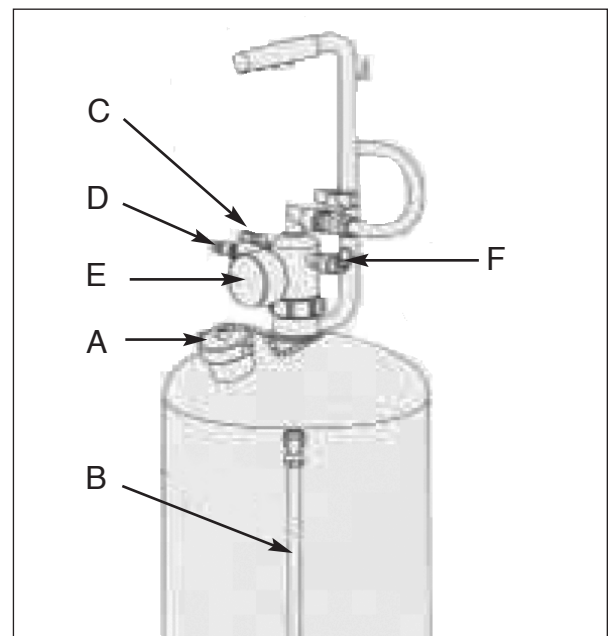

Fig. 2
1. Remove the cap A and fill the tank with oil no more than the maximum level shown on the level indicator B. (See Fig. 2)